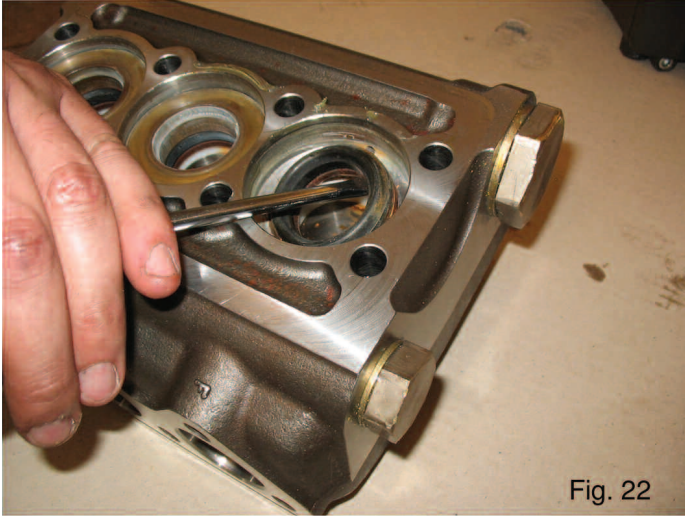

Fig. 22
B) Remove the high pressure packings from the fluid end and the low pressure ones from their support by means of standard tools, taking great care not to damage the seats. Fig. 22